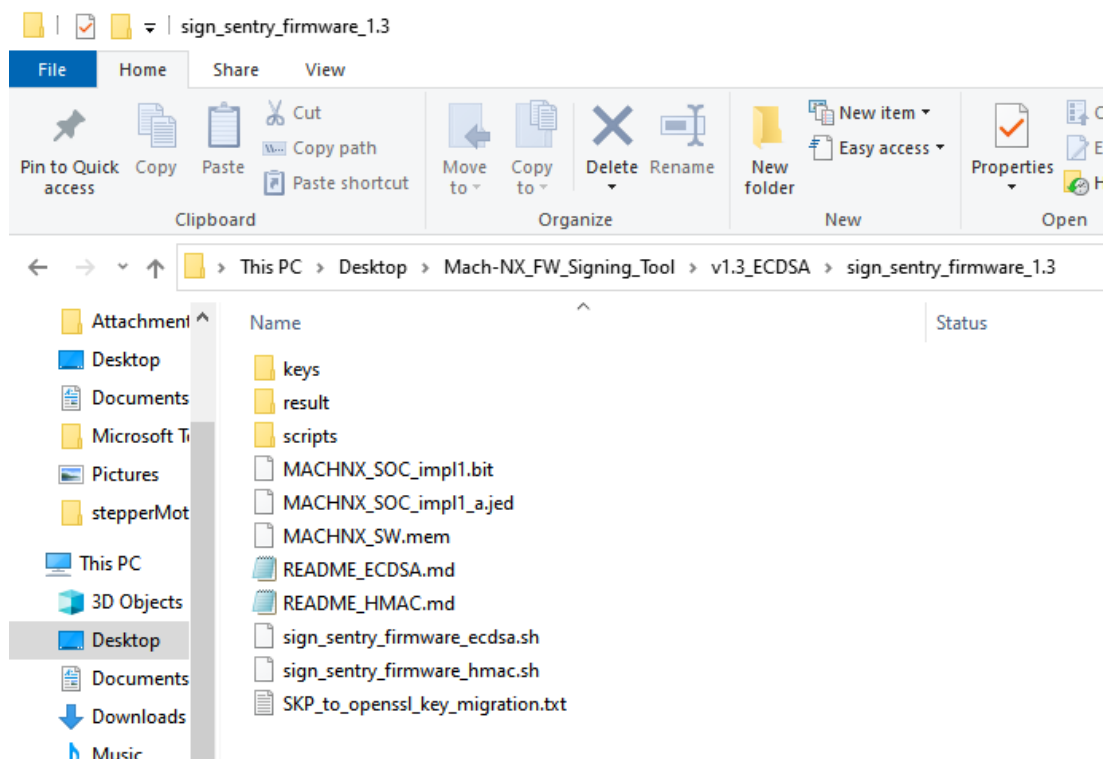

Figure 4.6. Selected Three Files in the Same Directory
2. Move the following three files, listed in Table 4.2, into the same directory as shown in Figure 4.6.